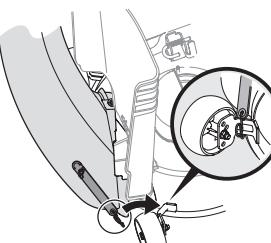
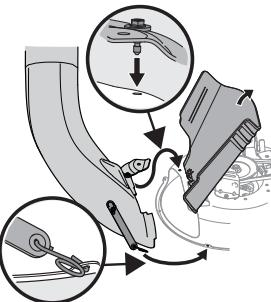

Figure 19
Figure 20
4. With the tractor's discharge chute raised up and held open, install the chute elbow over the chute opening by placing the deck mounting pin in the hole provided, as shown in the upper inset of Figure 20, then secure the elbow to the deck by hooking the retainer strap torsion spring hook over the deck wheel mounting bracket as shown in Figure 19.
5. On decks without deck wheels, hook the retainer straps into the hole provided in the flange on the front-side of cutting deck. See Figure 20.